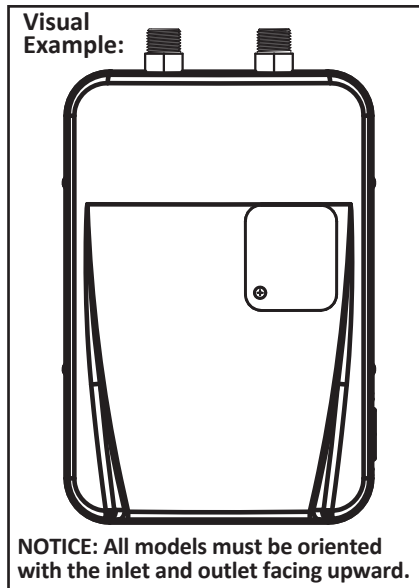

Figure 3 - Point of-Use Orientation
7. Position the unit against the wall. Make sure that the unit is level. **NOTICE:** All models must be oriented with the inlet and outlet facing upward. See Figure 3.